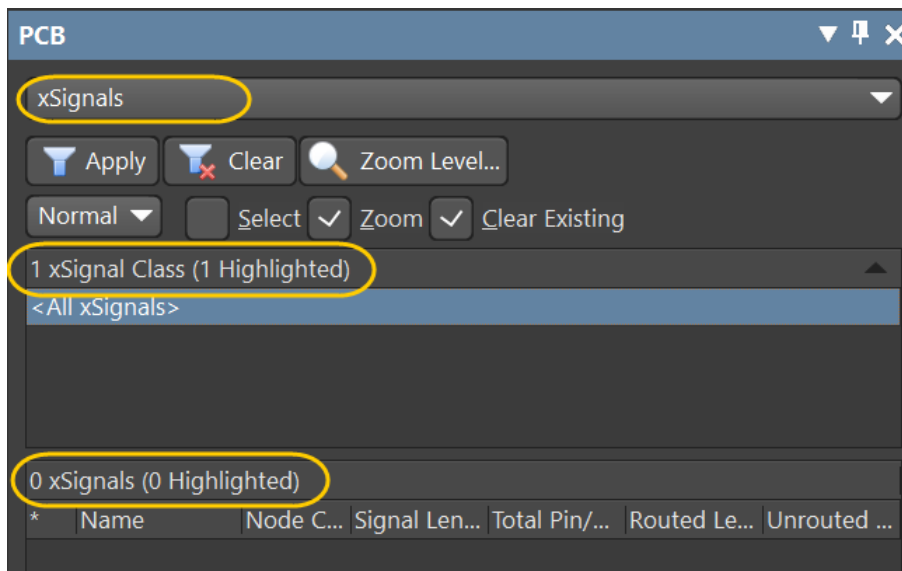

Figure 3. xSignals pane information from the PCB panel
- b) The *xSignal Class* pane will list all of the xSignals classes in our design. One *xSignals Class* is created by default as shown in Figure 3.